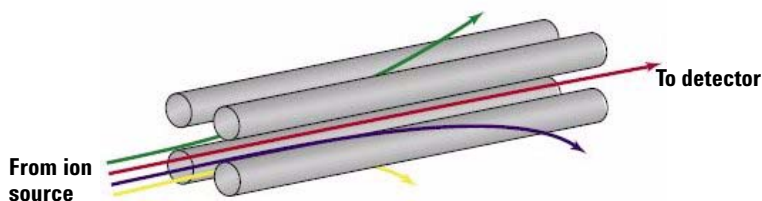

Figure 4 Quadrupole mass analyzer
The quadrupole mass analyzer (Figure 4) consists of four parallel rods to which specific direct-current (DC) and radio-frequency (RF) voltages are applied. The analyte ions are directed down the center of the rods. Voltages applied to the rods generate electromagnetic fields. These fields determine which mass-to-charge ratio of ions can pass through the filter at a given time. The ions that pass through are focused on the detector.